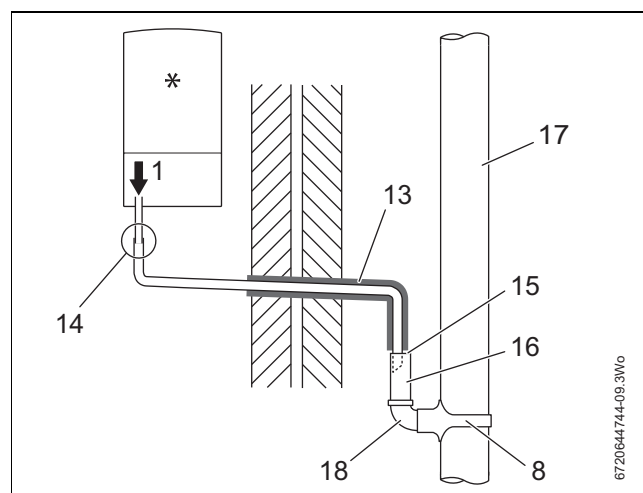

Fig. 15 Disposal into a rainwater down pipe
Continued - Key to condensate illustrations, figures 15, 16, 17 & 18
- Refer to figure 15 when a rain water down pipe is used to dispose of condensate.